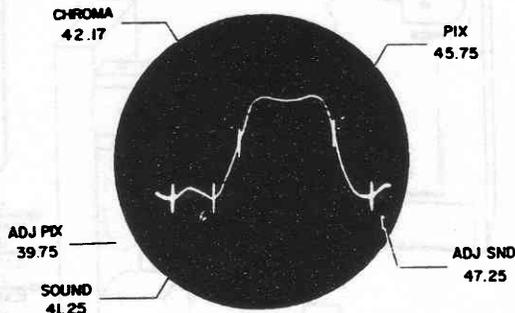

Figure 5.5 Typical I-F Response Curve with Markers Added
5.3.5 Depending on the alignment functions desired, the appropriate markers are selected for reference. For example Figure 5.5 is a typical marker display for i-f alignment.